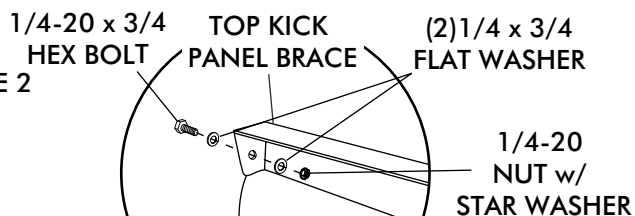

FIGURE 2a
- ☐ RESECURE TOP KICK PANEL BRACE USING 1/4-20 x 3/4 HEX BOLT, (2) 1/4 x 3/4 FLAT WASHERS AND 1/4-20 NUT w/ STAR WASHER AS SHOWN IN FIGURE 2a.